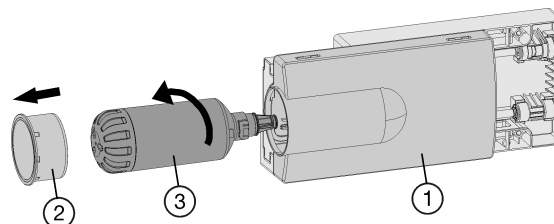

Fig. 7
- ▶ Pull out the tray *Fig. 7 (1)*, if necessary.
- ▶ Remove the filter cover *Fig. 7 (2)*.
- ▶ Turn the water filter *Fig. 7 (3)* approximately 100° counter-clockwise and pull it out.